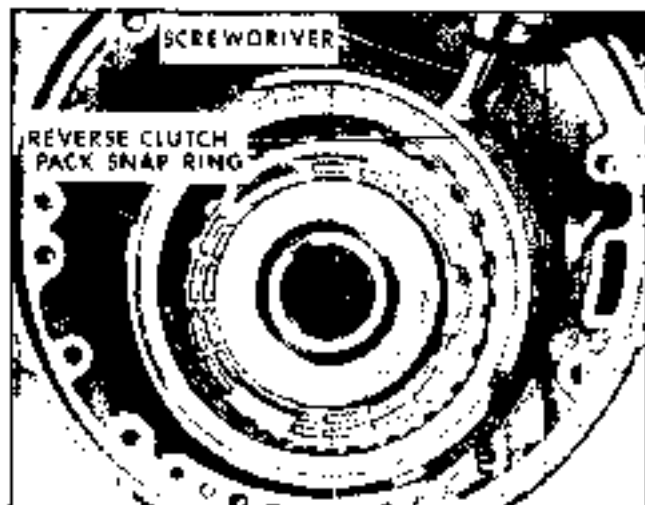

Fig. 7F-35 Removing Reverse Clutch Pack Snap Ring
7. With transmission in horizontal position, apply compressed air to reverse piston apply port to force out reverse piston (Fig. 7F-37).